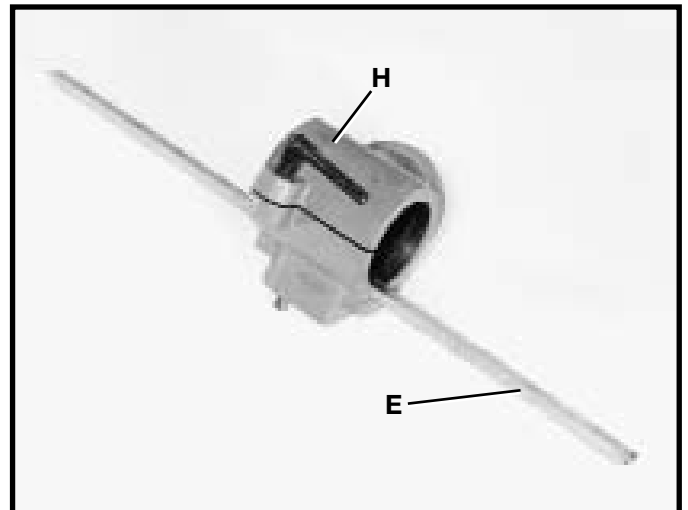

Fig. 5
5. Place raising rack (E) Fig. 5, in position inside table bracket (H) making sure gear on inside of table bracket is engaged with teeth of raising rack.